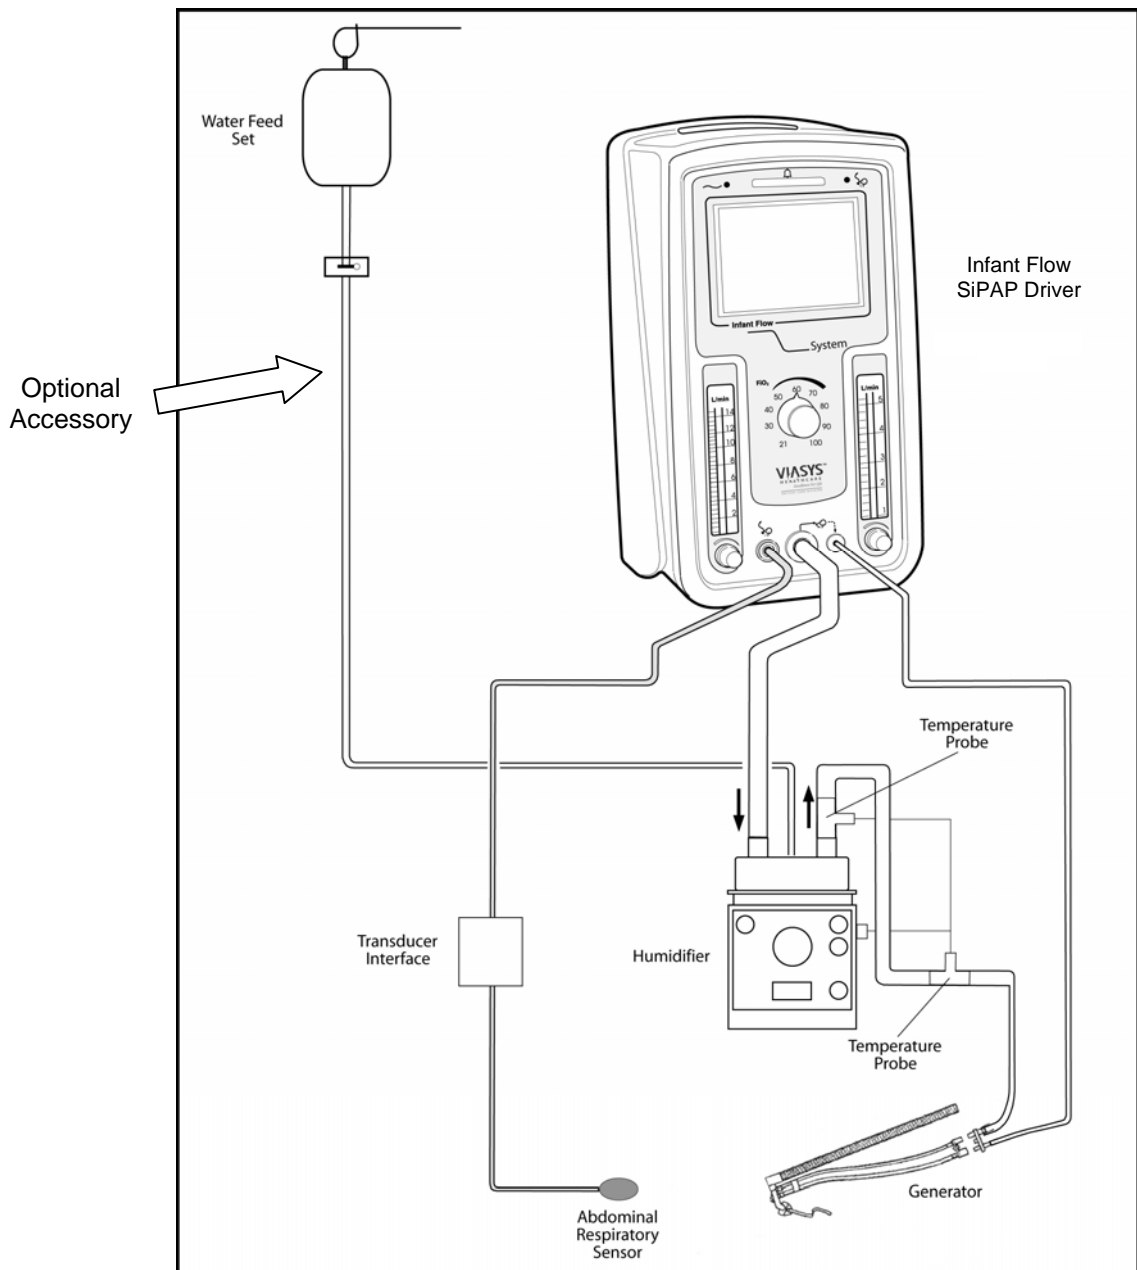

Figure 3 – Driver assembled with patient circuit and /humidifier
1. Connect the Transducer Assembly to the front panel of the driver (Fig. 3)
1. Have the patient circuit and generator assembled as shown in Fig 3.
1. Make appropriate connections for air and O₂ gas supply. Connect power cord to appropriate AC outlet. Attach patient circuit, generator and patient interface (mask or prong) as shown in Figure 3. Occlude the opening to the patient.